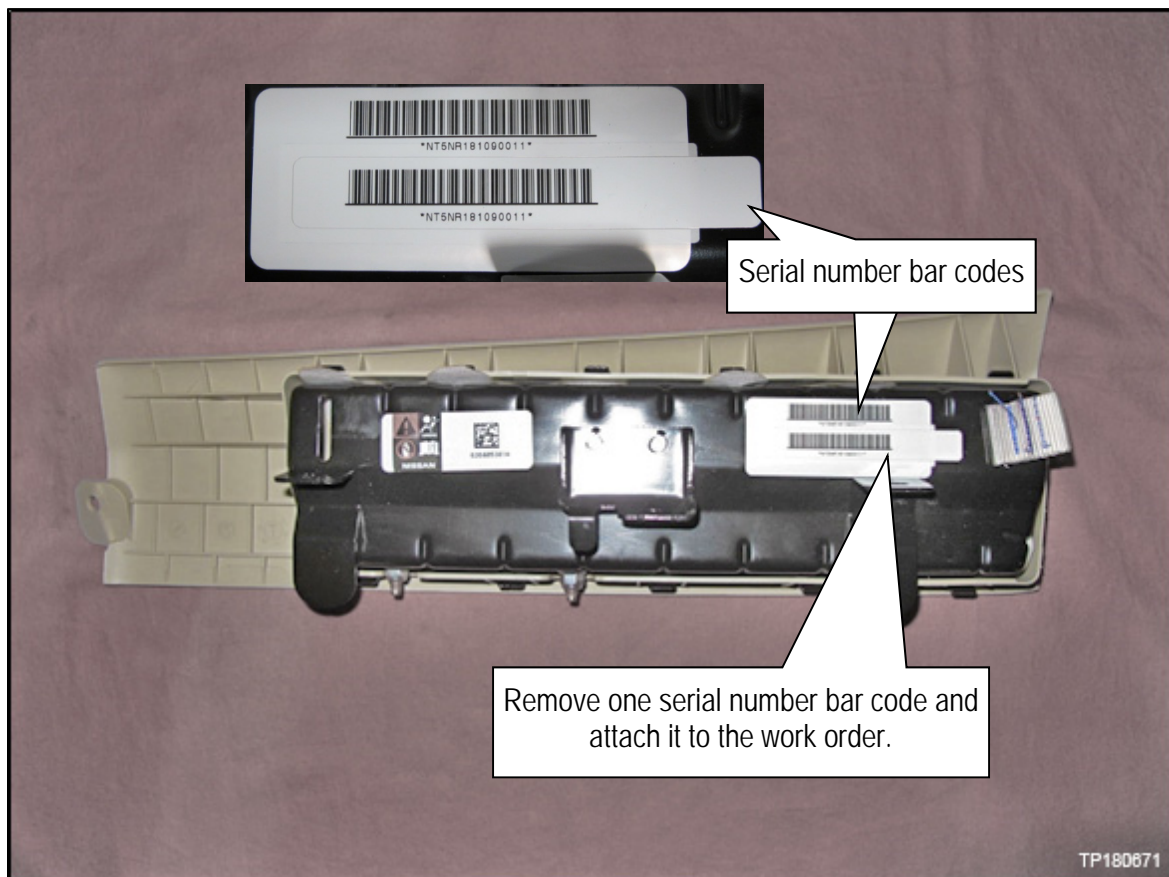

Figure 6
- Access the serial number bar code labels on the module (see Figure 6).